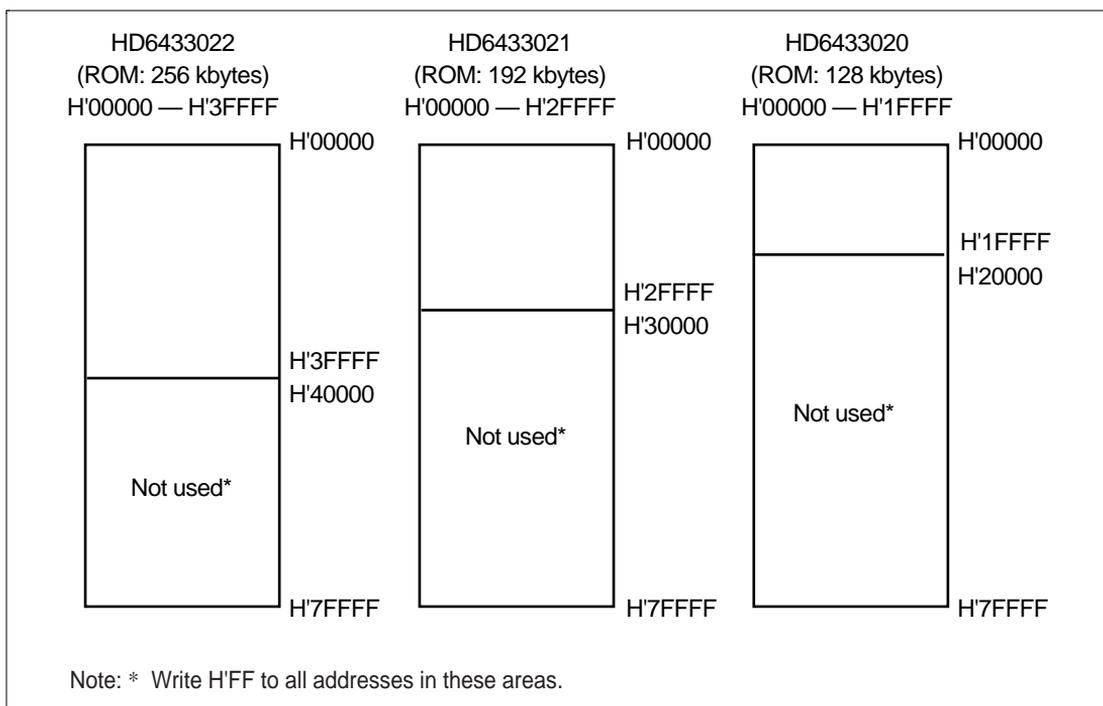

Figure 15-21 Mask ROM Addresses and Data
2. Fill all unused addresses with H'FF as shown in figure 15-21 to make the ROM data size the same as for the 512-kbyte version. This applies to ordering through an EPROM and through electrical data transfer.